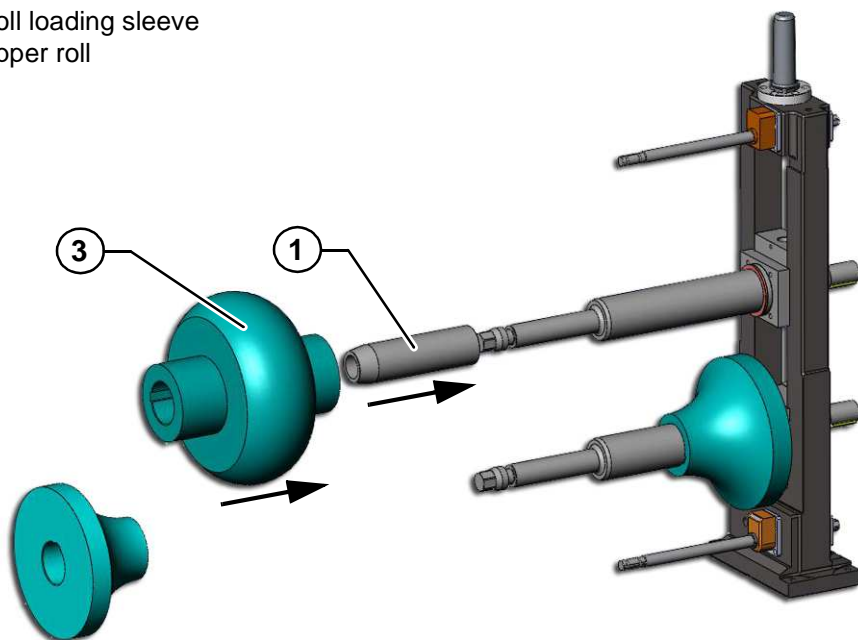

Fig. 2-D Roll assembly: phase 2
- 3- Align the roll loading sleeve pos.1 with the lower shaft and install the second half of the lower roll pos.4 in *Fig. 2-E*.